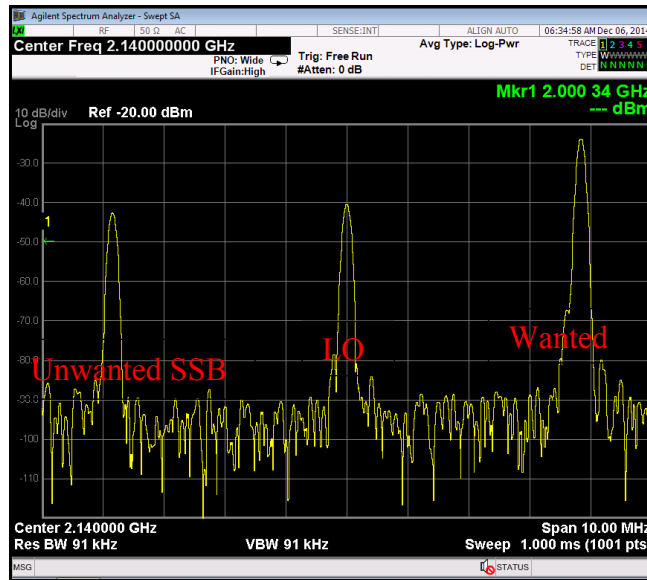

Figure 15 Not calibrated Tx Output
**NOTE:** Before configuring **TxTSP** tab, select the **A/RXT** channel in top right of the GUI, On the transmitter output you should see the wanted CW with 3.8MHz offset from LO, unwanted SSB on the other side of spectrum and LO leakage. See *Figure 15*.